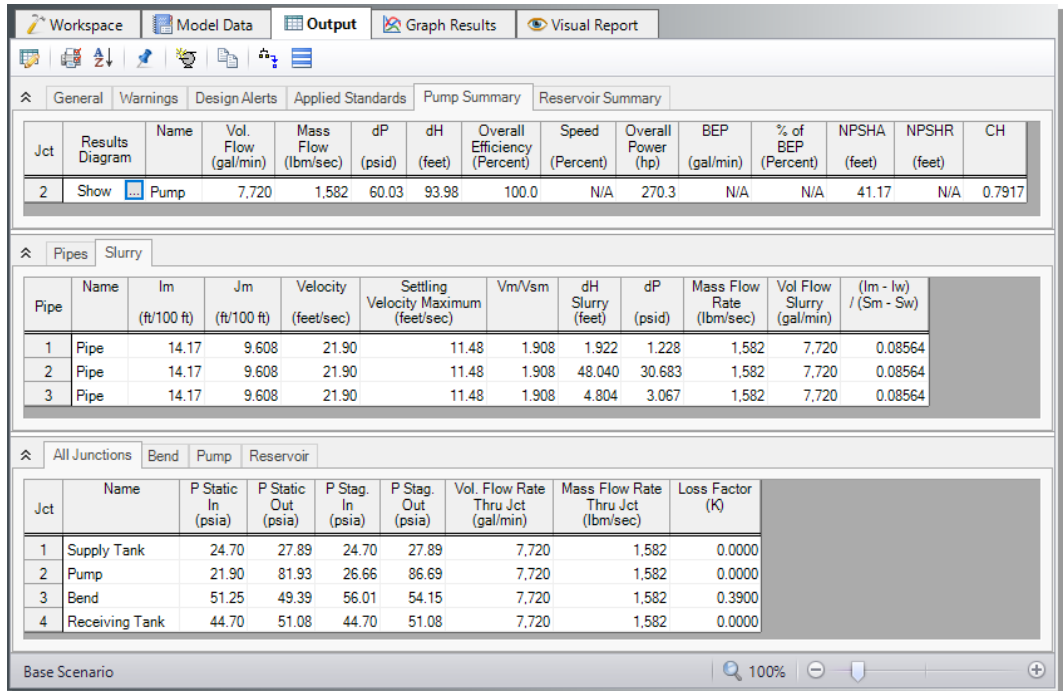

Figure 5.24 The Output window shows the Slurry results table in the center Pipes section and the pump de-rating in the Pump Summary in the upper General section
The Slurry tab shows the slurry results, as shown in Figure 5.24. Here, one can see that the velocity is 21.90 feet/sec, which is safely above the 11.48 feet/sec max settling velocity. Other pressure drop and relevant slurry data can be viewed here.
Also shown in Figure 5.24 is the Pump Summary in the General Section. There, the required pump head is shown as 93.98 feet, and the de-rating head correction factor (CH) is 0.7917 (the CH parameter is added via Output Control under the Pump options). Hence, a pump should be selected that can generate $93.98/0.7917 = 118.71$ feet of head based on water.